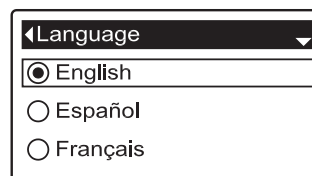

FIG. 44
5. Press the SELECT (O) button to display the Language menu (See Figure 44).
6. If the desired language already has a black dot next to it (See Figure 44), go to Step 7. Otherwise, press the DOWN (▼) or UP (▲) buttons to scroll to the desired language, then press SELECT (O) to choose it. The choices are: English, Spanish, French, Italian, German, Dutch, Polish, Russian, Hungarian, Turkish, Lithuanian, Greek or Romanian.